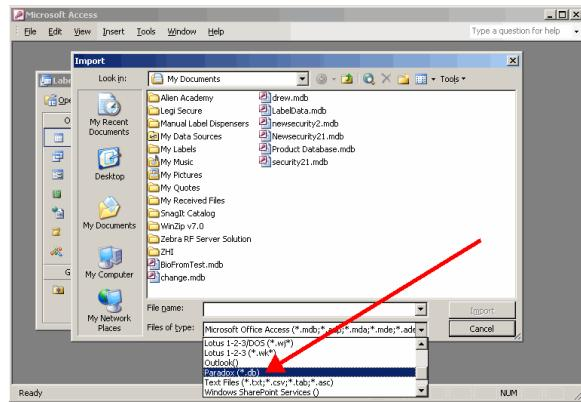

Figure 36
41. Browse to the database files you located in Steps 4 and 5, and choose the Paradox (*.db) option in the File of type box. (Figure 36)